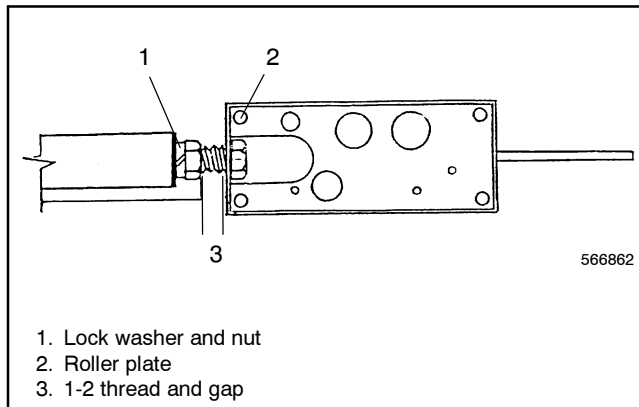

Figure 6-2 150-400 Amp Plunger Assembly
1. Insert the bolt through the hole in roller plate assembly. See Figure 6-2.